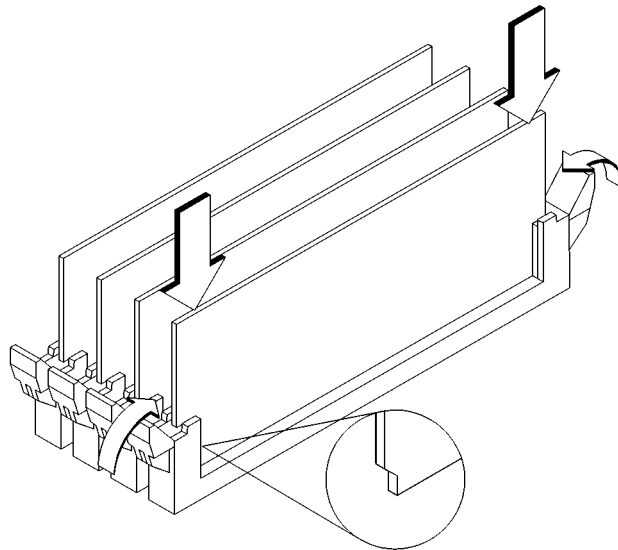

Figure 38
- 3 Close the ejector tabs on each side of the memory connector. See Figure 38.
- 4 Place the memory module in the connector, lining it up with the guides. Make sure to put the notched end toward the left, as shown in Figure 38.